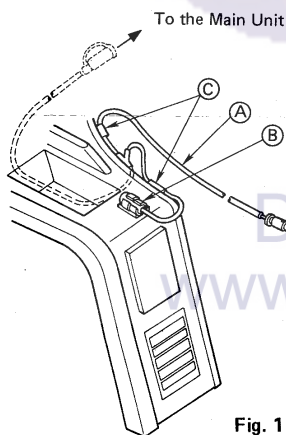

Fig. 1
- Attach the Connector Holder (B) and the 2 Holders (C), and fix the Y-Shaped Cable (A) with the Holders (C) as shown in Fig. 1. Fix one end of the DIN Connector (female) to the Connector Holder (B), and connect the other end to the Main Unit DIN Cord as shown in the figure.